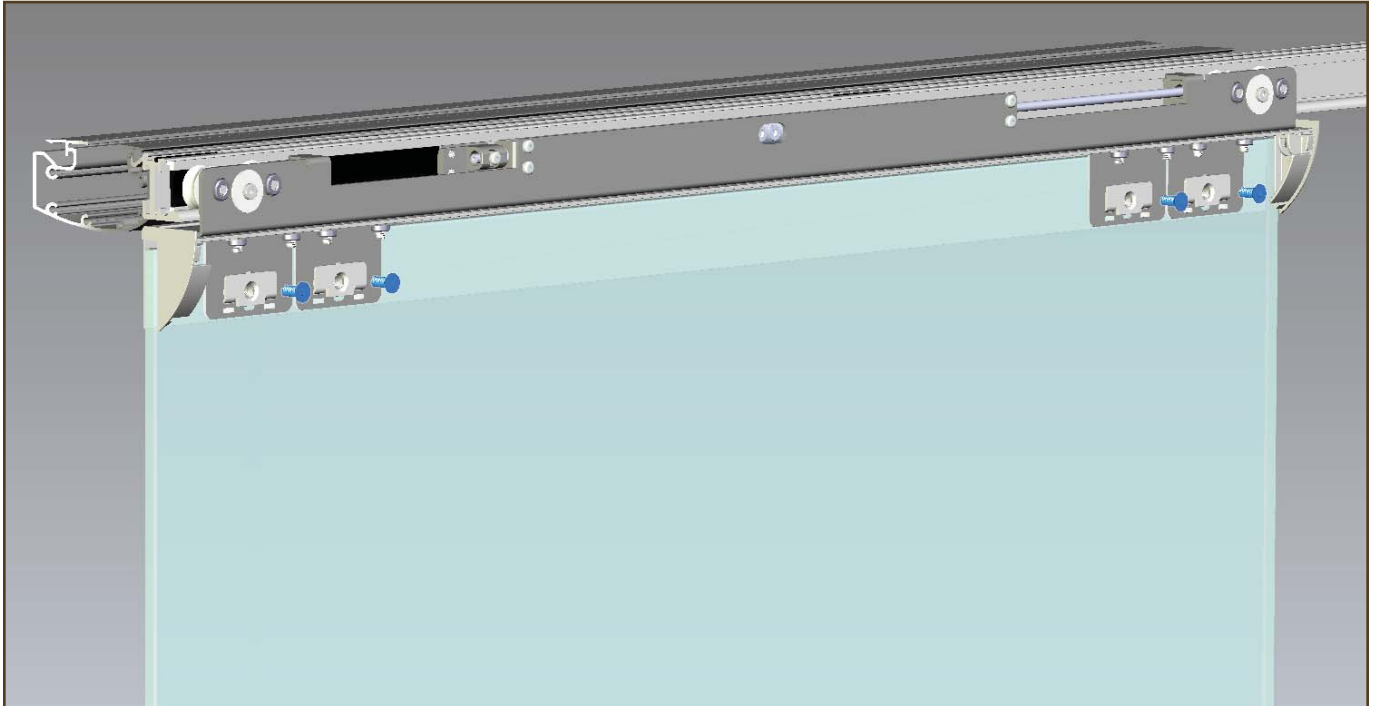

Figure 9. Fasten all four (4) Flat Head Machine Screws (highlighted in blue) to lock Height Adjustment Plates into place.
STEP 7. Lock the Height Adjustment Plate in place with ¼ - 20 x ½" Flat Head Robertson Machine Screws (Figure 9). Do this for all four (4) Hanger Bracket Assemblies. Hang the door on the Track to confirm the height adjustment is optimal.